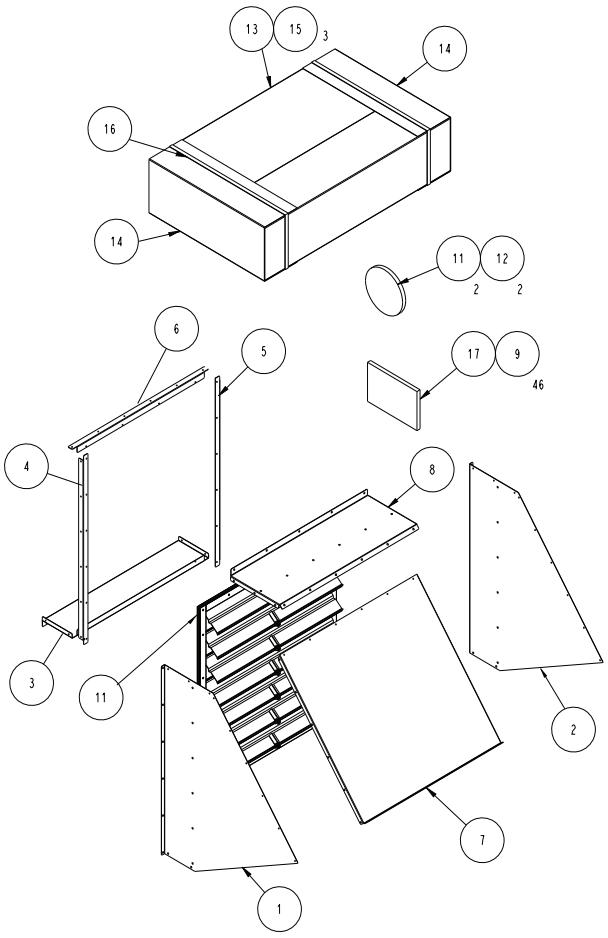

Fig. 27 —Exhaust Hood Assembly and Parts Detail
2. Assemble hood. See Fig. 27.